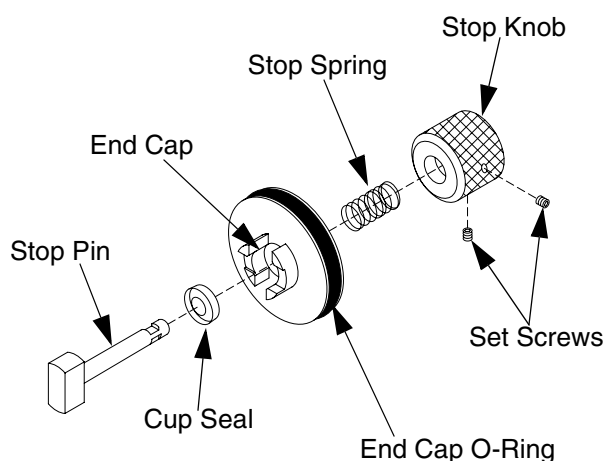

FIG. 14. Safety Stop Assembly
7. See FIG. 14. Use a 5/64 in. hex key to loosen two setscrews on stop knob. Slide knob off shaft of stop pin. Retain shaft spring. Pull stop pin out of end cap.